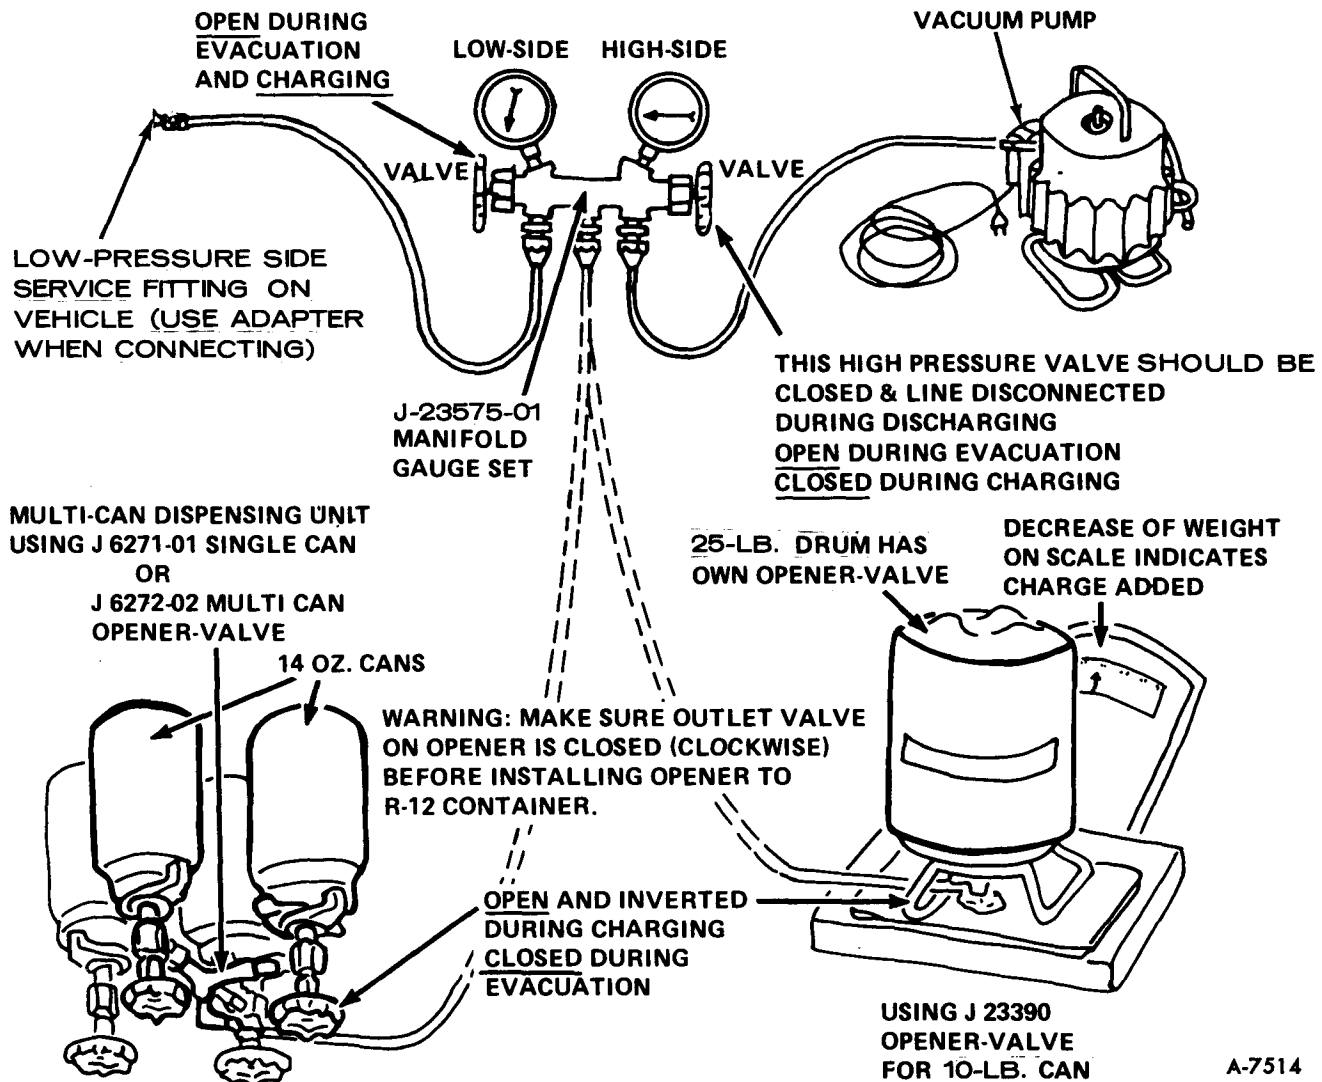

Figure 58—Charging the 1977 A/C System with Disposable Can or Refrigerant Drum
3. Close all the control valves on the manifold gauge set. If low pressure gauge line does not have a built-in Schrader type core depressor, install Gauge Adapter J-5420 onto the low pressure line of the Manifold Assembly. Place end of center manifold hose into an empty refrigerant bottle or covered can as shown in figure 58.
**NOTE:** An empty 3-lb. coffee can with a plastic cover as shown in figure 58 which has been cross-slitted (X'ed) works well for this purpose. This will allow refrigerant to be discharged safely. Container will also collect any oil lost due to rapid discharge of system, and will allow for later measurement of oil loss.
1. DO NOT CONNECT THE HIGH PRESSURE LINE OF MANIFOLD GAUGE ASSEMBLY TO THE VEHICLE AIR CONDITIONING SYSTEM. (High Pressure Gauge Line connects to Vacuum Pump as shown in figure 58)
1. Connect manifold gauge assembly J-23575-01 as shown in figure 58, attaching low pressure gauge line to LOW SIDE service fitting. If hose is not equipped with Schrader-type valve depressor add J-5420 adapter to the gauge line before connecting line to LOW SIDE service fitting. Attach high pressure gauge line to the vacuum pump. Connect center hose of manifold to the R-12 source. If a Refrigerant-12 drum is used, place it on a scale and note the total weight before charging. Watch the scale during charging to determine the amount of R-12 used.
With the vehicle A/C system evacuated and R-12 source containers attached to openers, as indicated in figure 58, charge the system using the following procedure: